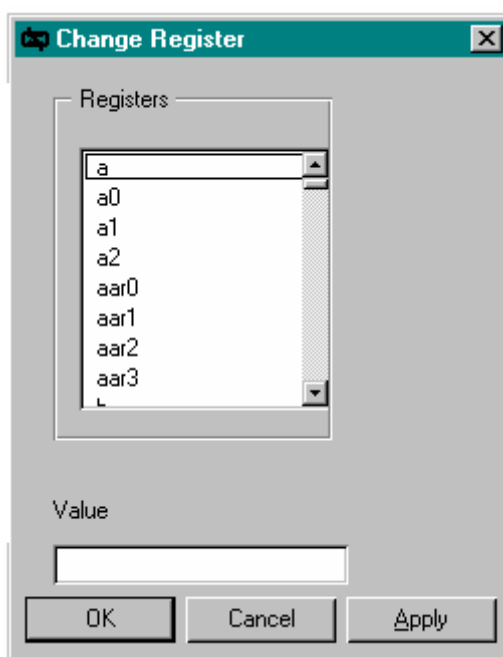

Figure 5-3. Changing the Value of Register
1. From the **Modify** menu choose **Change Register**. The dialog box in Figure 5-3 appears.